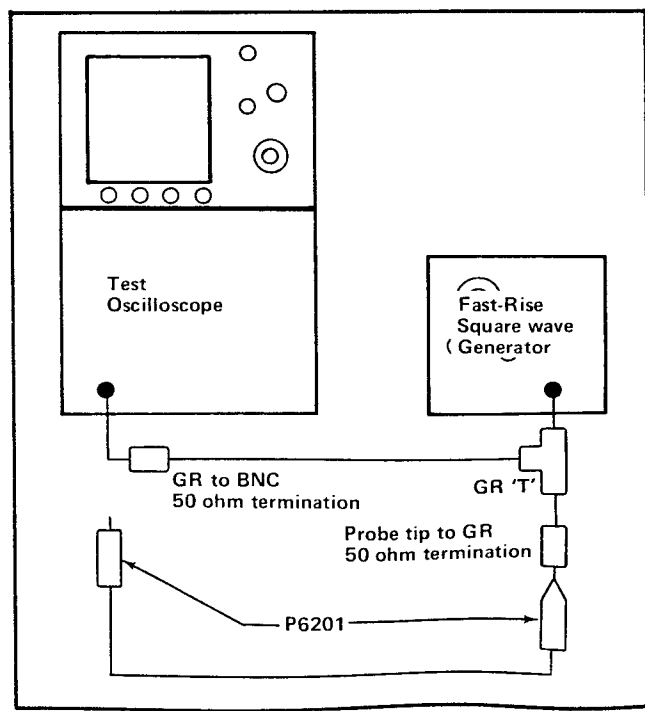

Fig. 5-2. Equipment setup for steps 2 through 5.
- b. Connect the test equipment as shown in Fig. 5-2.